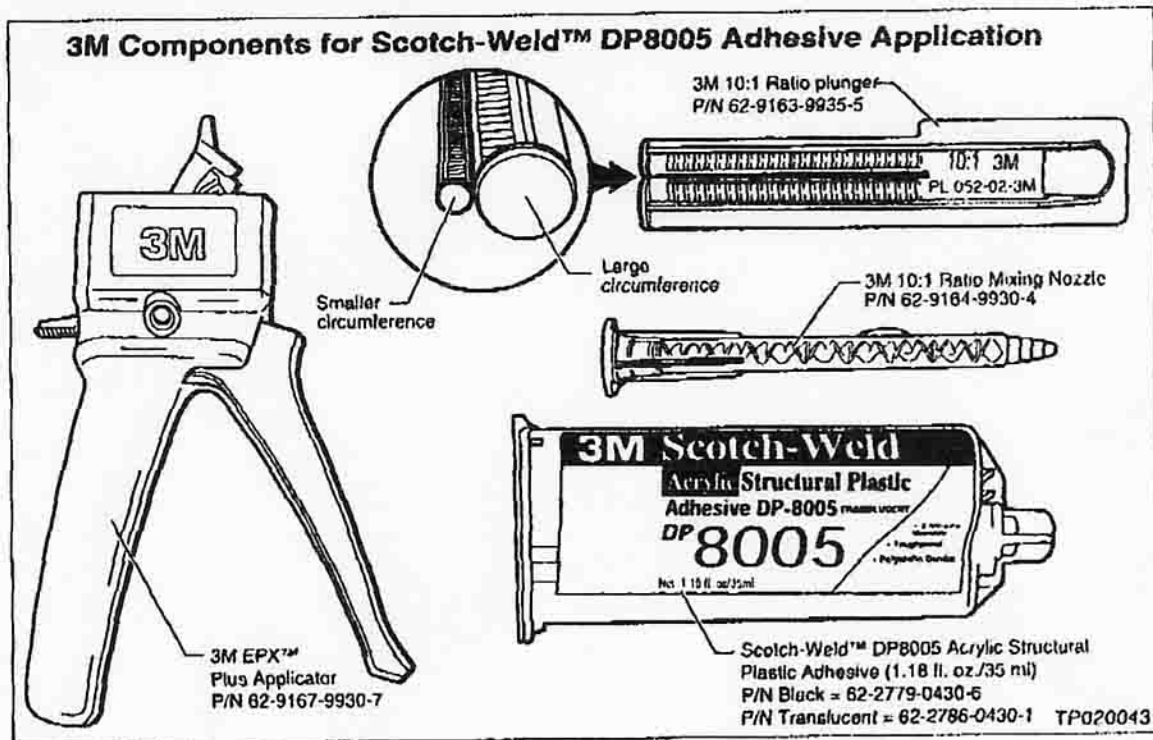

Figure 2
- Figure 2 below provides an illustration of all of the 3M products required to apply the adhesive.